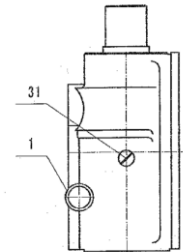

Fig 2
force will increase and kick on the cross travel happens when longitudinal cutting, therefore clamp handles (2), (28) to prevent cross kick, must loosen them after cutting, see Fig .2 .